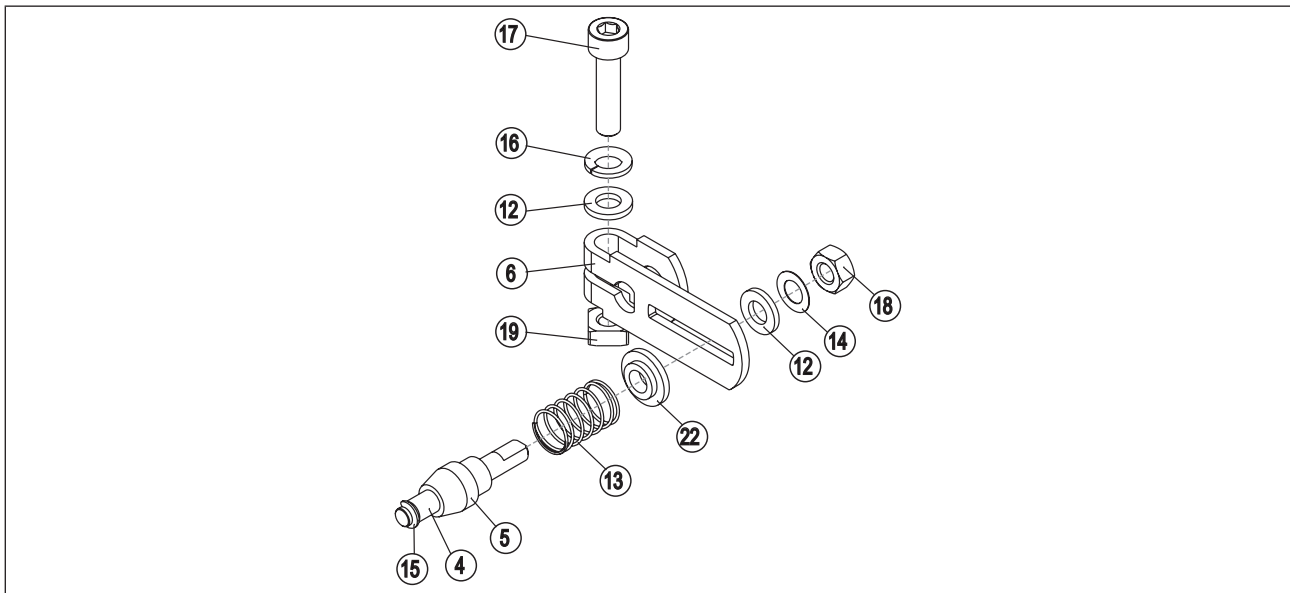

Figure 23: Assembling the lever
- Assemble lever (if not pre-assembled) “Figure 23”.